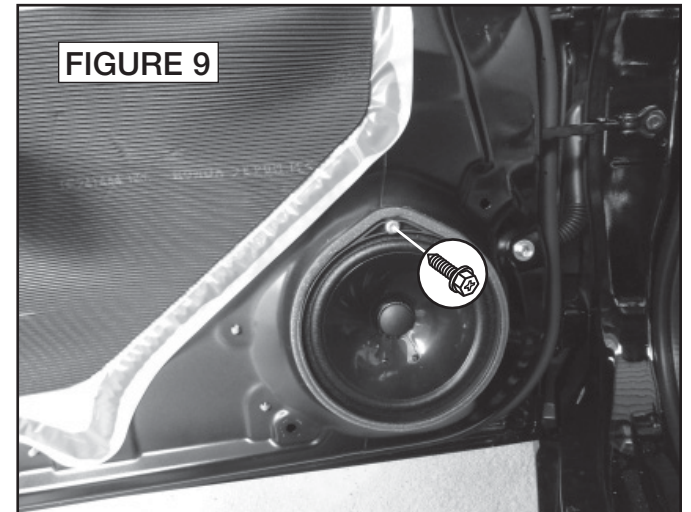

FIGURE 9
8. Remove one (1) phillips screw securing top of speaker. Pry out top of speaker, then lift speaker, disconnect wiring harness and remove (Figure 9).
8. Remove four (4) phillips screws securing **subwoofer grille** to enclosure and remove grille (Figure 9).